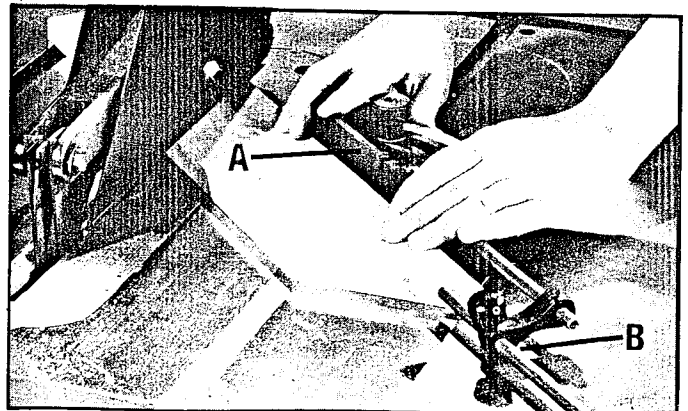

Fig. 73
The miter gage is used to support the material being cut when performing crosscut operations. The material should be held firmly against the body of the miter gage (A) as shown in Fig. 73. The miter gage and the material are pushed all the way through the cut and clear of the blade.
For repetitive work, the adjustable stop rod assembly (B) Fig. 73, can be set to the desired length of work